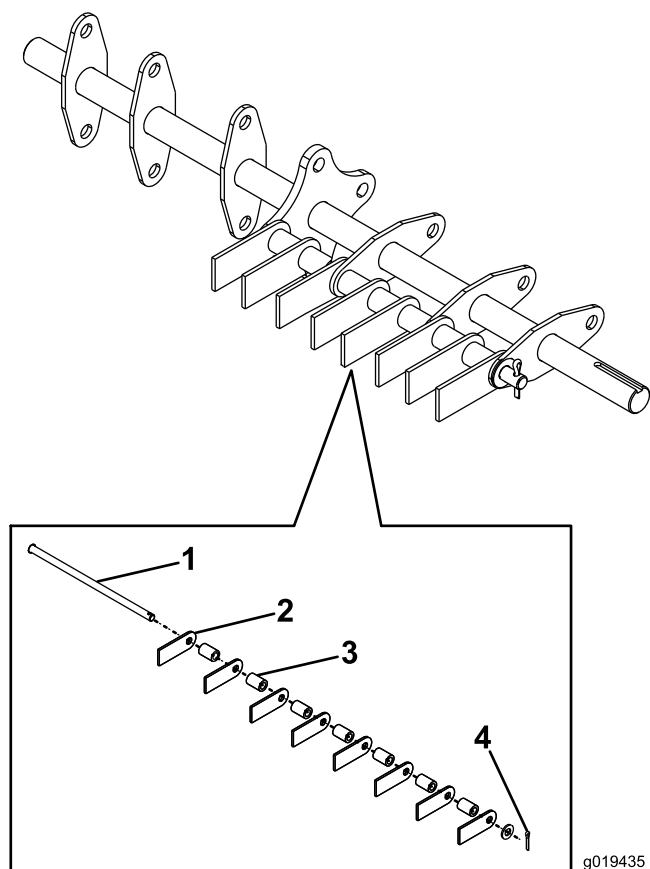

Figure 20
5. Remove the cotter pin from the rod with the worn down flail (Figure 20).
6. Carefully pull out the rod to release the flails and spacers (Figure 20).